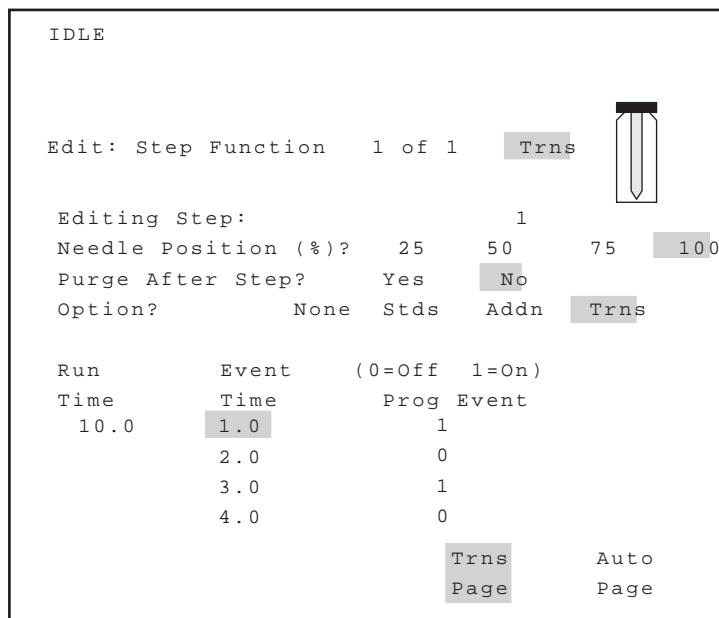

Figure 4-11 Edit: Step Function Screen
This section describes the Step Function screen (Figure 4-11).
Note: Figure 4-11 is an example of the Edit: Step Function screen with the Auto Transfer option selected. When other options are selected, keys for the selected function appear.
2. From the Edit: Step Function screen (see Figure 4-11), press the **down-arrow** key to move the cursor to the Option? field.